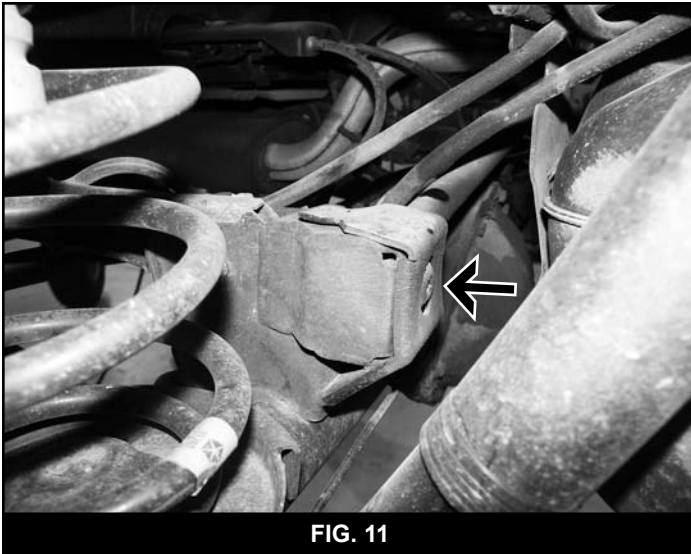

FIG. 11
11. Remove the plastic cover from the track bar mount on the driver's side of the axle (Fig 11). Discard the cover.
12. Disconnect the track bar (Fig 11) from the axle by remove the Torx head bolt (T55). Note how the track bar is positioned in vehicle. It can rest in the vehicle or be removed for reinstallation later.